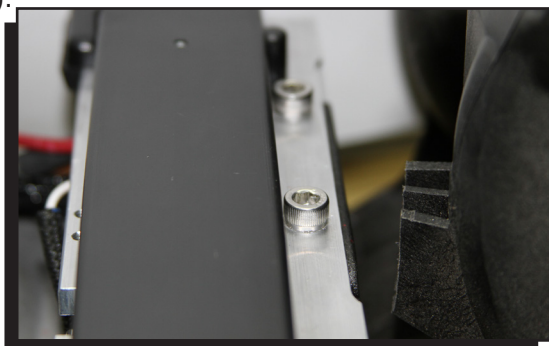

Figure 13 Rail to Bracket Bolts.
15. Install the rails onto the manifold. Use the supplied 6mm bolts to secure the rails to the rail brackets. Torque to 85 in lb – 87 in. lb. (Figure 13).